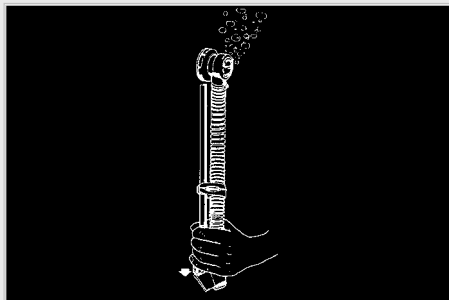

Fig. 5
- 2) pull the inflator downward (Fig. 5).